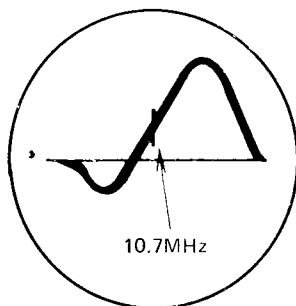

Fig. 11
3. Align the L20 so that the response of S-curve will change to a peak. (Refer to Figs. 11 & 12.)